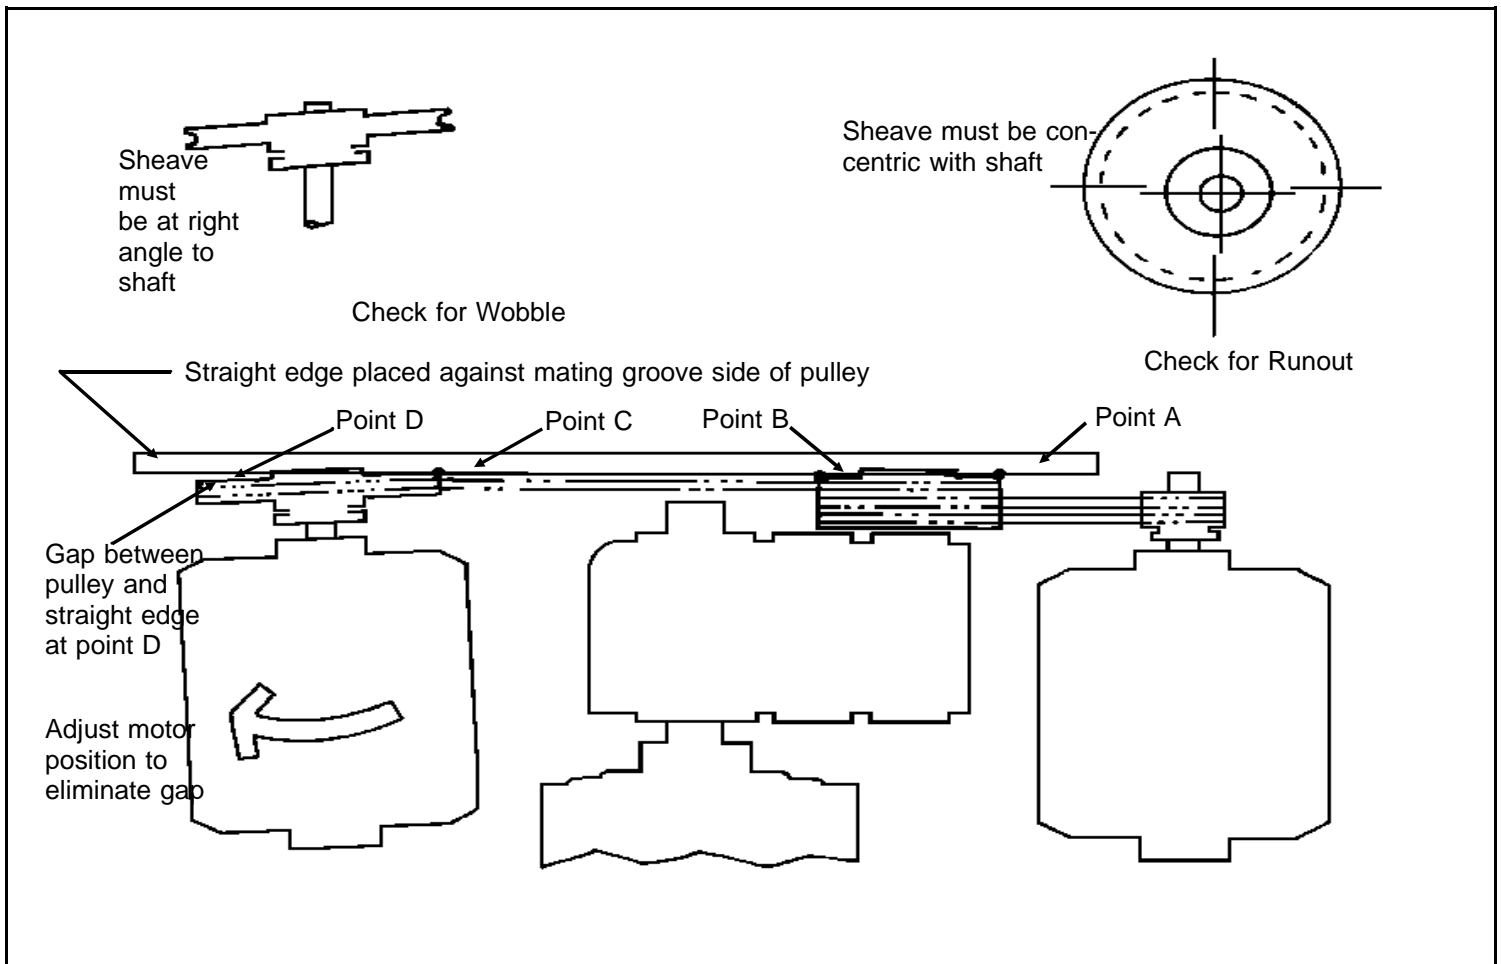

FIGURE 3 (MSSMA407BE)
3. Loosely assemble the sheave and bushing on the shaft in the approximate location for proper belt alignment, allowing for take-up movement of the sheave. Make certain Grade 5 bolts, identified by the head marking shown in FIGURE 3, were supplied.
6. Check for sheave alignment as shown in FIGURES 3. The sheaves must be aligned within 1/64" per foot between shaft centerlines and in no case greater than 1/8". Readjust the sheave position as required to correct alignment.